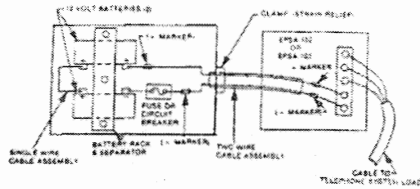

FIGURE 12
as well as the EPSA terminals, are marked positive (+) or negative (-). See Figure 12. Match positive to positive and negative to negative.
02.48 Connect the positive wire to the positive pole of the battery to which the fuse is not connected (see Figure 12).
02.49 Connect one end of the single-wire cable to the positive terminal on the battery with the fuse. Connect the other end to the negative terminal on the battery without the fuse (Figure 12).